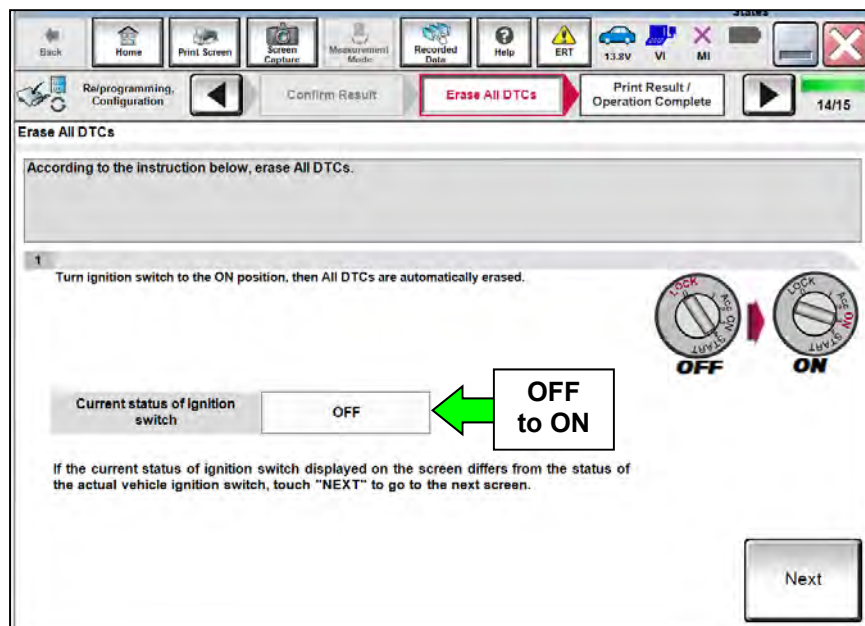

Figure 24
- The screen in Figure 24 will read **ON** after pressing the power switch twice.